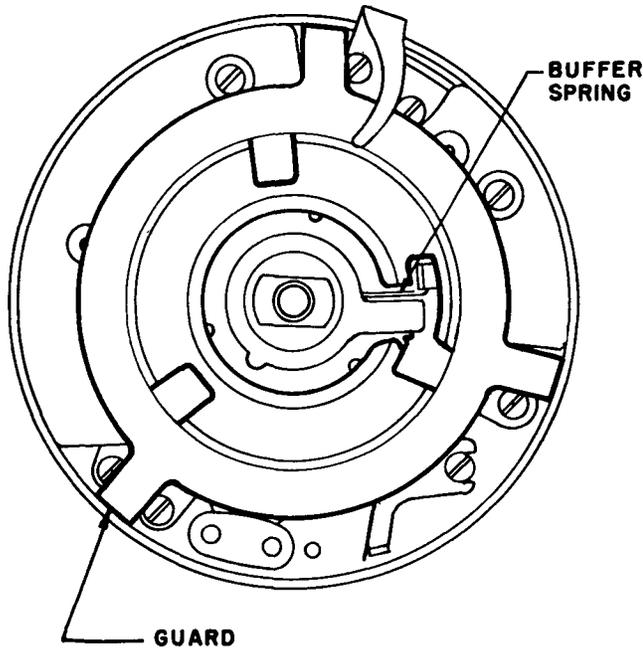

Fig. 8—5-Type Dial Showing Buffer Spring and Metal Guard
- 3.01 Parts shall not be missing or broken (a broken buffer spring on the 2-, 4- or 5-type dials is permissible). Refer to Fig. 8. Only parts listed in the supply section shall be replaced.
3.01 Parts shall not be missing or broken (a broken buffer spring on the 2-, 4- or 5-type dials is permissible). Refer to Fig. 8. Only parts listed in the supply section shall be replaced.
11.02 On 5-type dials, if number plate is removed for any reason, the dial shall be equipped with a vincellatate muslin dust cover (gasket P-347826) and a metal guard P-347836. The metal guard is designed to prevent interference between dust cover and main gear assembly. Refer to Fig. 8.